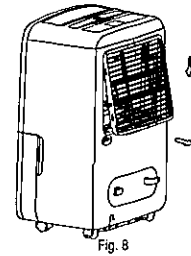
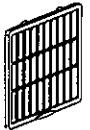

Fig. 8
Fig. 9
- Grip the tab on the filter and pull it upward, then pull it out as shown in Fig. 8 and Fig.9.